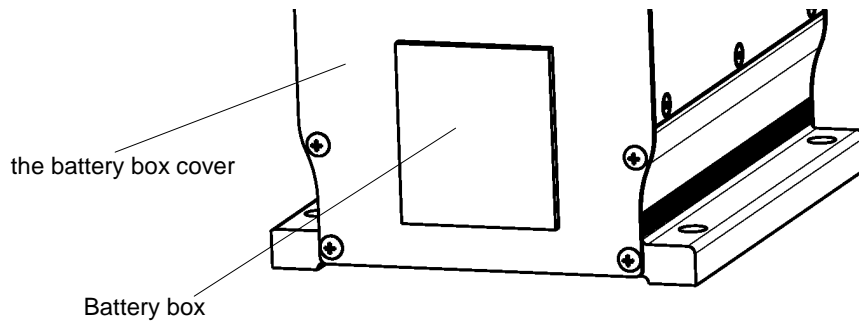

Fig. 8.1 Battery box location
- 4) Please remove the battery box cover “Fig.8.1”. Eject connector by reference of the next Fig and check electric voltage about 4.5V by tester. If electric voltage is